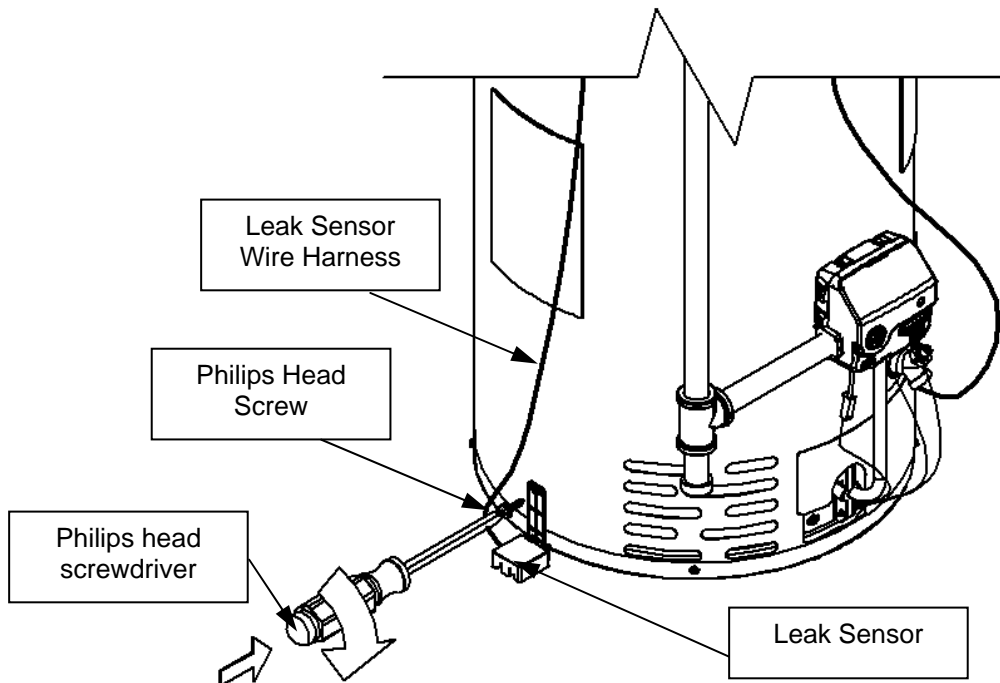

Figure 67
Step 16: Using (1) of the included Philips head screws, screw the Leak Sensor to the water heater jacket. This is shown in Figure 67.